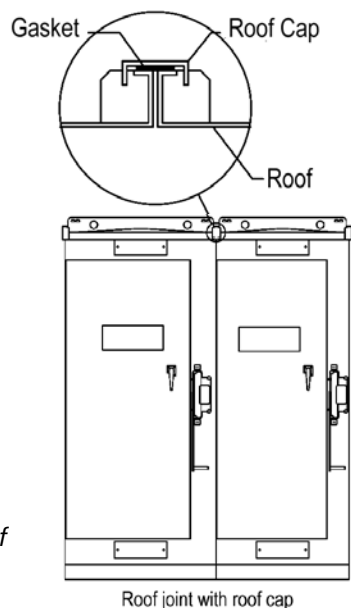

Figure 5. Installation of roof caps over roof flanges on outdoor switchgear.
On Federal Pacific **outdoor** switchgear a suitable outdoor caulk (Sealant,#GE108) should be applied to seal the surfaces between the cubicles. For the roof seal Federal Pacific uses a roof cap channel design with a gasket (furnished) to prevent water from entering into the connecting bus area. See Figure 5).
**Step 6** - On outdoor switchgear, after all bays are in place and bolted together, install roof caps and gaskets (furnished) over roof flanges (See Figure 5) between bays and bolt in place using the hardware furnished. Using an outdoor rated caulk, #GE108 or equal, caulk the vertical edges between adjacent cubicles. It is not necessary to caulk the metal surfaces between the roof cap hardware and the roof cap gasket. Install and tighten bolts and nuts at edges of through-bus openings on adjacent bays using the hardware furnished.